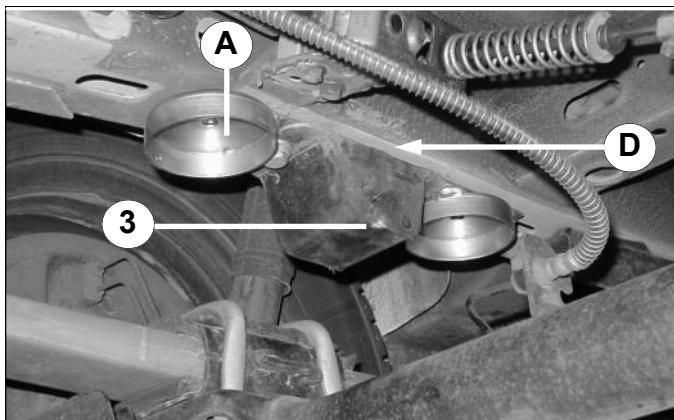

Fig.6.
- Demonteer de buffer 3. Zie fig. 6.